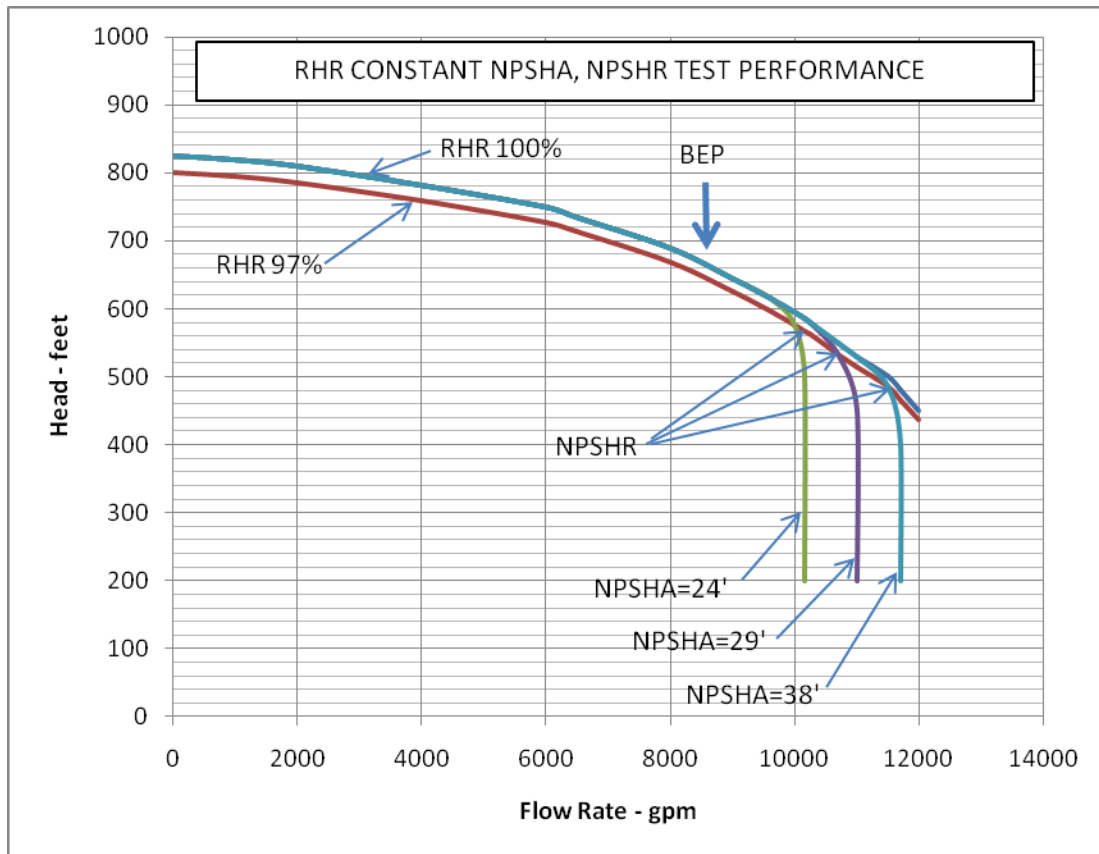

Figure 1: NPSH test with suction head held constant (RHR)
Principal Consultant and Pump Specialist, Allan R. Budris, P.E., used his four decades plus experience on centrifugal pumps and their suction (and cavitation) condition, to determine the accuracy of and uncertainties involved in using the 3% head loss value of NPSH Required (NPSHR) for the reactor ECCS core spray and residual heat removal pumps (using the pumps in the Sultzer / Browns Ferry Report as examples of the types of pumps to be considered). Any positive variance from the factory NPSHR test to the actual field NPSHR will reduce the run-out flow rate of the ECCS pumps, as shown in figures 1 and 2 (for the RHR and CS pumps). This could limit the RHR and/or CS pumps from reaching the critical flow rates required during a reactor accident.
- a. An actual NPSH factory tests of the specific pump in question, tested in accordance with the Hydraulic Institute Standard (ANSI/HI 1.6): Figures 1 and 2 show one (of two) type of HI test (constant NPSHA) for the RHR and CS NPSHR performance. This is the most accurate (gold standard) method of determining the NPSHR (3%) of a pump. For best accuracy, the test should be conducted at the rated speed, and impeller diameter, with the NPSHA controlled by a vacuum pump. The individual measurement, allowable HI test fluctuations and instrument accuracy are shown in Table 1. The resulting net NPSHR accuracy of this method would be expected to be in the +/- 1 to 2 feet range (or +/- 2.5% to +/- 5%, whichever is larger), depending on the accuracy of the instrumentation and air content of the test liquid. If possible this method should be the preferred method.
- e. Finally, an NPSH field test could be performed (as shown in figures 1 & 2), if calibrated instruments (with proper straight runs of piping before and after the instruments) can be provided, the suction pressure can be throttled, and the flow rate can be varied and accurately measured. In some respects this could be the most accurate test, since any field speed changes or suction piping influence would be included in the test. The accuracy of this method is strongly dependent on how close the test can be to the Hydraulic Institute test criteria. A fair estimate of accuracy of this method would probably then be in the ± 1 to ± 10 feet range (or 2.5 to $\pm 30\%$ range), whichever is greater.